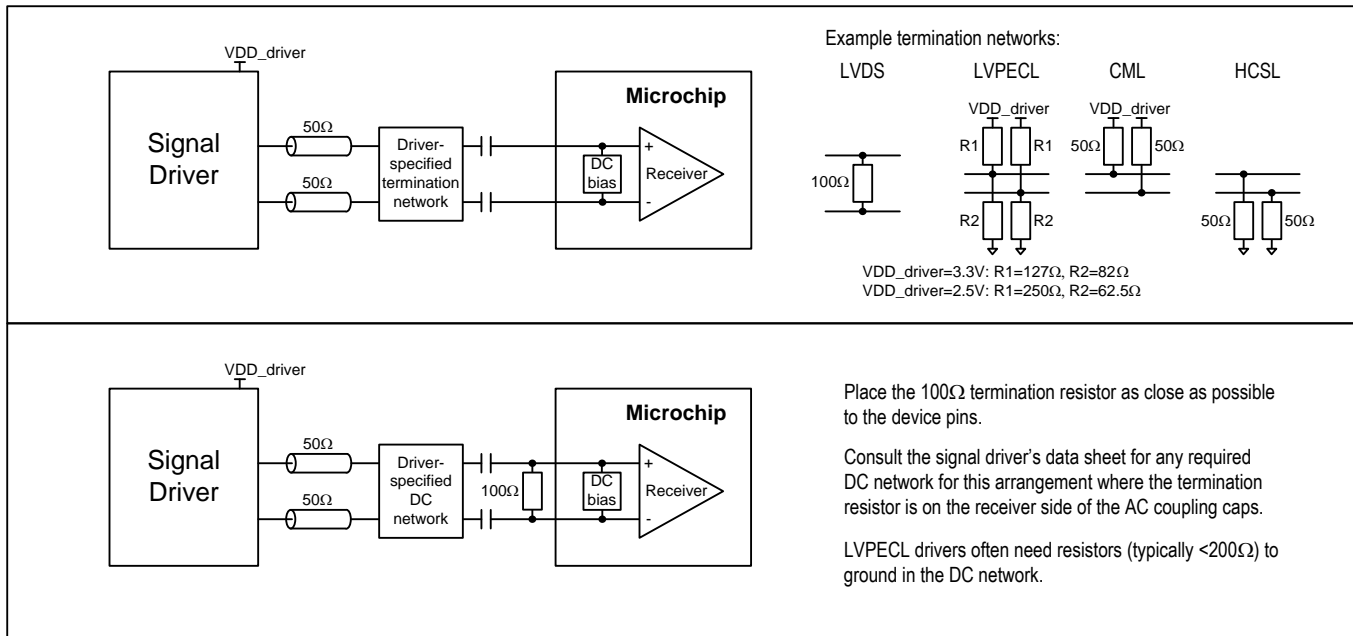

Figure 15 - Example External Components for Differential Input Signals
- Note 3: Differential signals.** The differential inputs can easily be interfaced to neighboring ICs driving LVDS, LVPECL, CML, HCSSL, HSTL or other differential signal formats using a few external passive components. In general, Microchip recommends terminating the signal with the termination/load recommended in the neighboring component's data sheet and then AC-coupling the signal into the ICxP/ICxN pins. See Figure 15 for details. To connect a differential signal to IC3, AC-couple one side of the signal to IC3P and AC-couple the other side to VSS. For DC-coupling, treat the input as 1.8V CML.